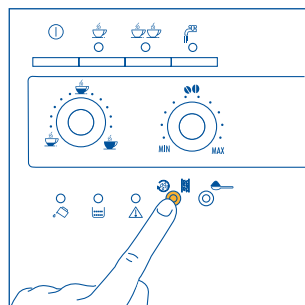

Fig. 14
1) If, when the machine has just been turned on, a short cup of coffee is required (less than 2 oz), use the hot rinsing water to pre-heat the cups (see suggestion in section 4.3, point 5). If, on the other hand, more than 2-3 minutes have elapsed since the last coffee was made, before preparing **another coffee the infuser must be pre-heated, pressing the ☕☕ button** (Fig. 14).